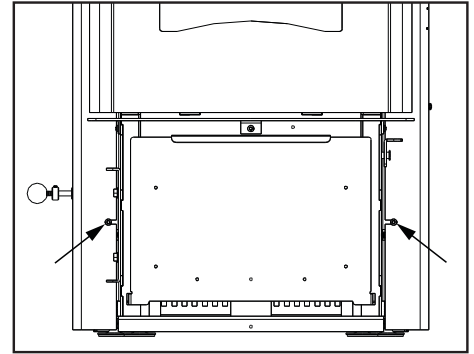
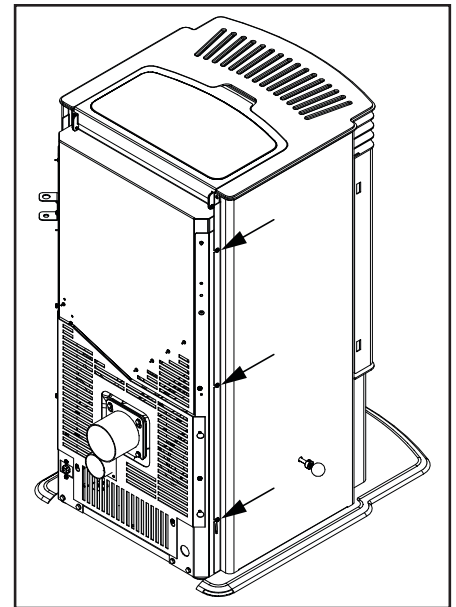

Figure 3: Screw behind ash box.
Figure 4: Screws at the back of the cabinet side.
- a) Ensure the screws behind the ash box (Figure 3) and the three (3) on each side at the back (Figure 4) are loosened.